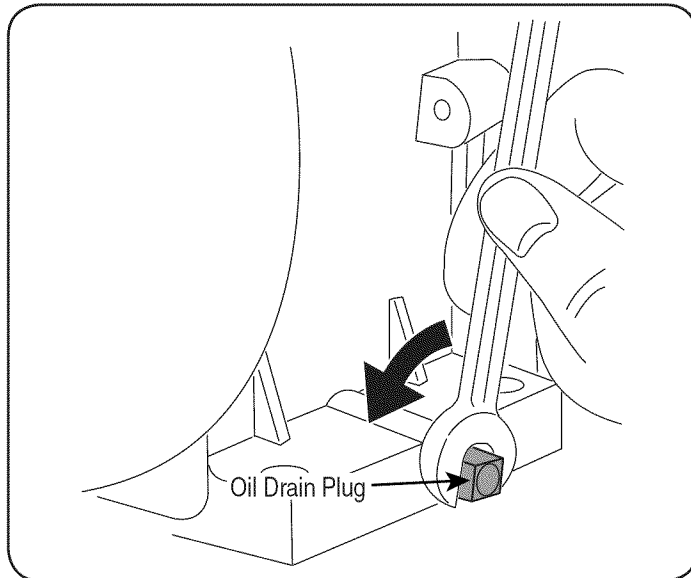

Figure 24
5. Remove the Oil drain plug. See Figure 24.